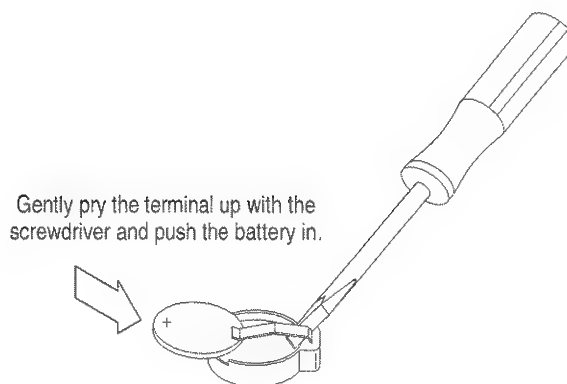

Figure 7-11: Replacing the Backup Battery
3. To replace the battery, gently pry up on the battery terminal as shown in Figure 7-11 and push the battery into place.